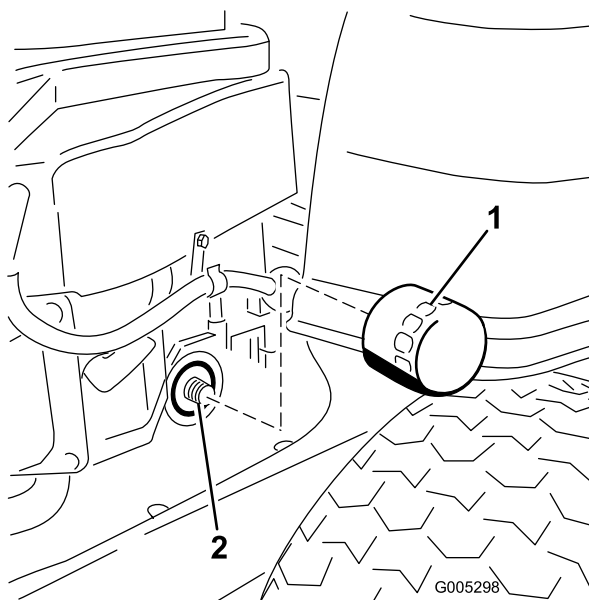

Figure 30
10. Locate the oil filter on the right side of the engine. Remove the old filter and wipe off the filter adapter with a clean cloth (Figure 30).
Turn the oil filter clockwise until the rubber gasket contacts the pad, then tighten the filter an additional 3/4 to 1 turn (Figure 30). Wipe up any excess oil on the frame.